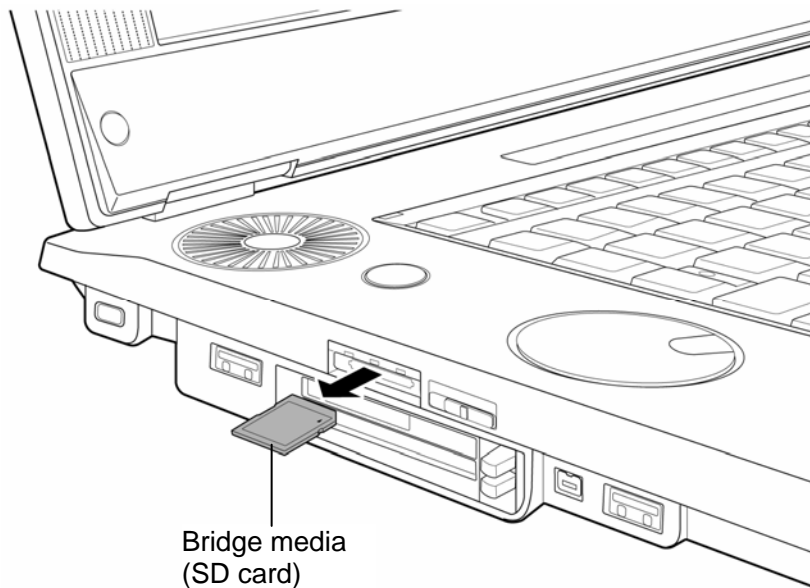

Figure 4-5 Removing the Bridge media
The following describes the procedure for removing the Bridge media (See Figure 4-5).
1. Push the **Bridge media**. It will pop out partly when you release, so pull out the card. (For an instance, SD card is described in the figure 4-5.)
The following describes the procedure for installing the Bridge media (See Figure 4-5).